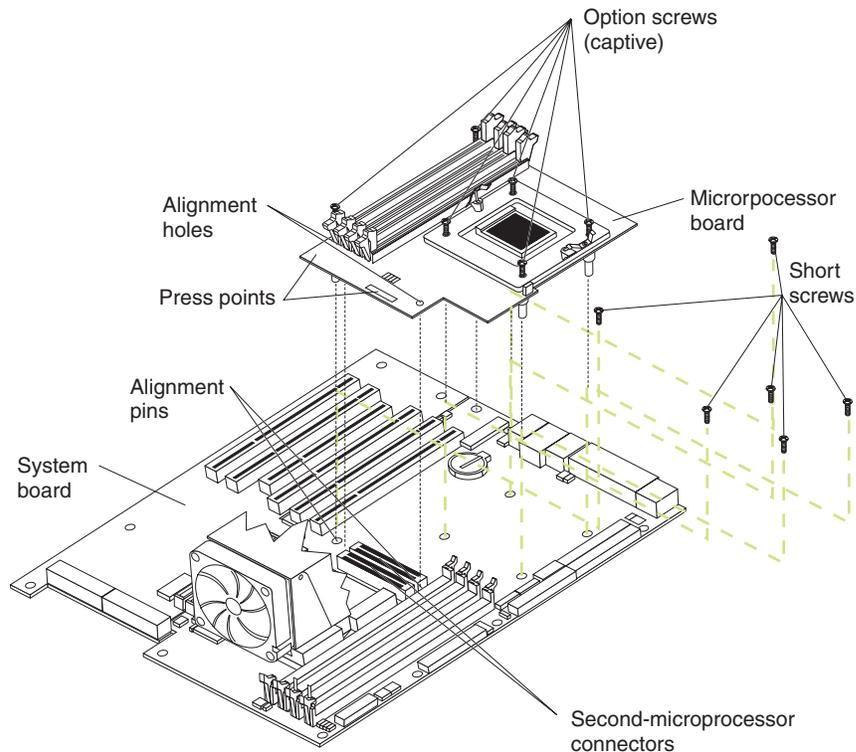

Figure 31. Installing the microprocessor board
3. Position the alignment holes in the microprocessor board over the two plastic alignment pins on the system board (see Figure 31); then, lower the microprocessor board onto the alignment pins.